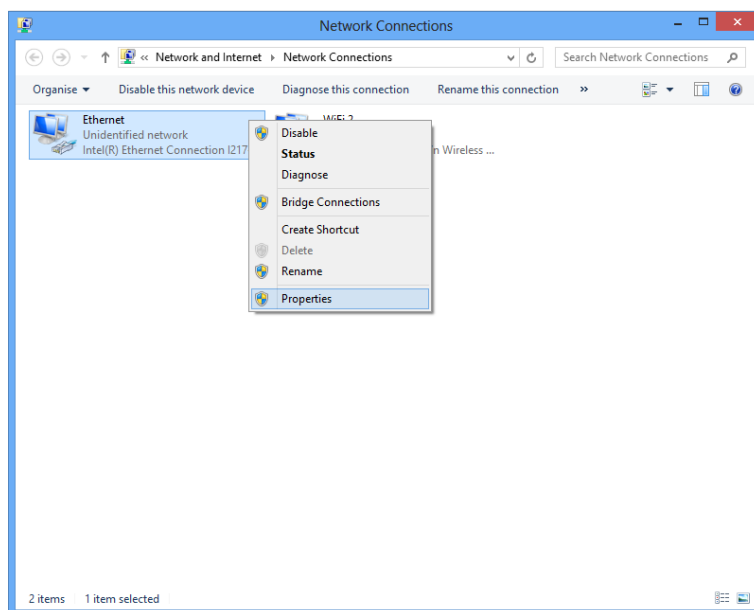

Fig. 5.8: Network Connections window
3. Right-click on the Ethernet icon and select "Properties" (**Fig. 5.8**).